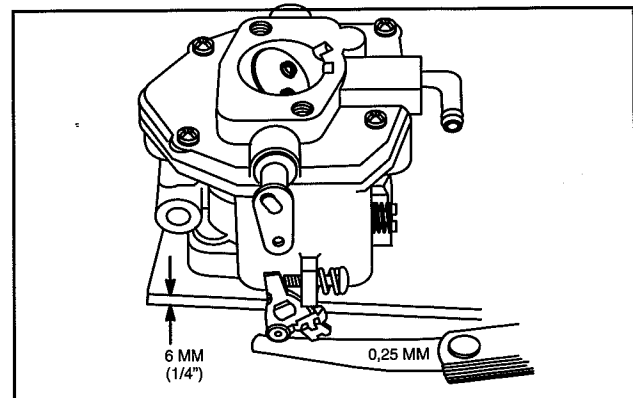

Fig. 86 – Check Clearance
1. Lay carburetor on 6mm (1/4") raised flat surface and check throttle and choke shaft clearance as shown in Fig. 86.